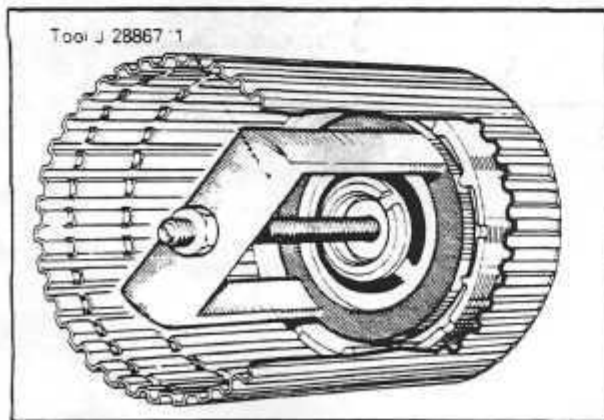

Fig. 63
4. Compress the piston return springs using the special tool J 28867/1 (part of the A/T Tool Kit) and remove the lock ring securing the spring retaining plate. *Fig. 63*
6. Compress the retaining plate using the special tool and install the lock ring. Ensure that the lock ring is fully seated before removing the tool. *Fig. 63*